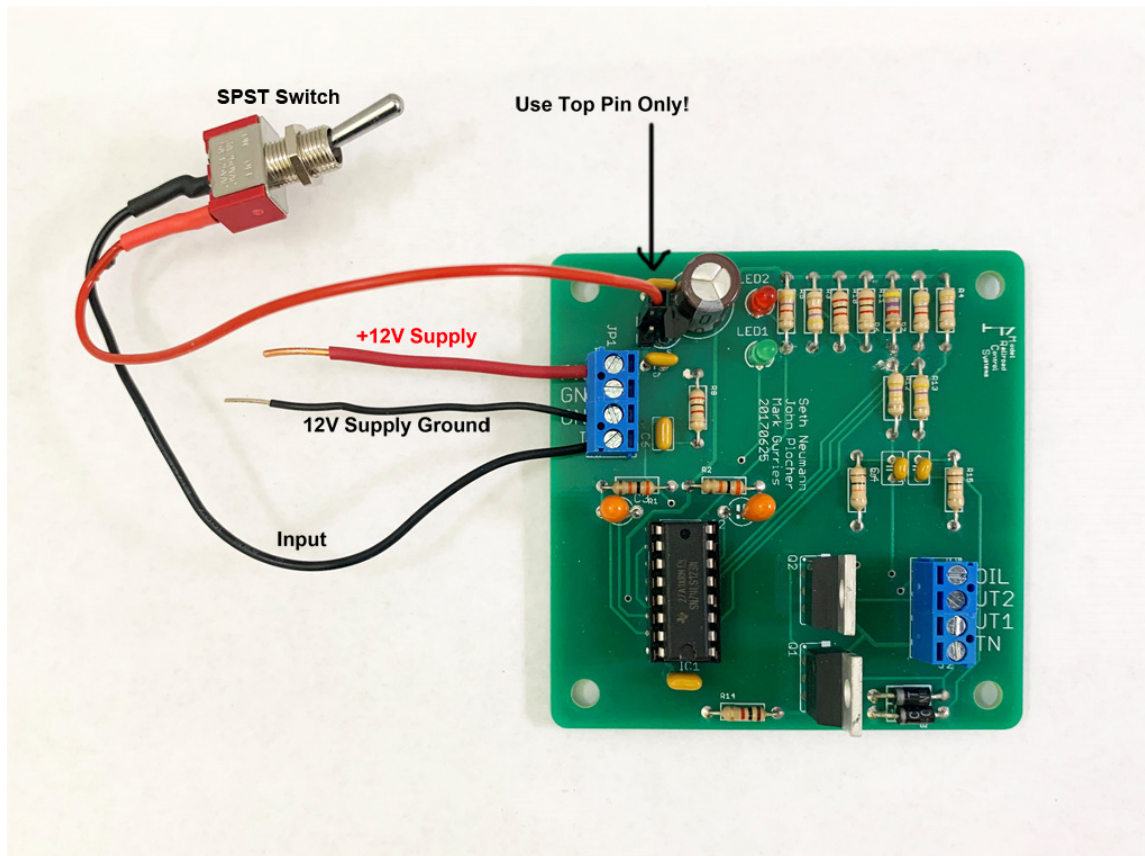

Figure 2- Manual Switch Control
- Connect the input signal to the input terminal on the J1 connector – figure 2 shows how to use an SPST switch for testing or direct control (as opposed to an Arduino or CMRI device)
- If using a manual switch, DO NOT CONNECT 12V to the input, use 5V, this may be found on the output of the internal regulator as shown in figure 2